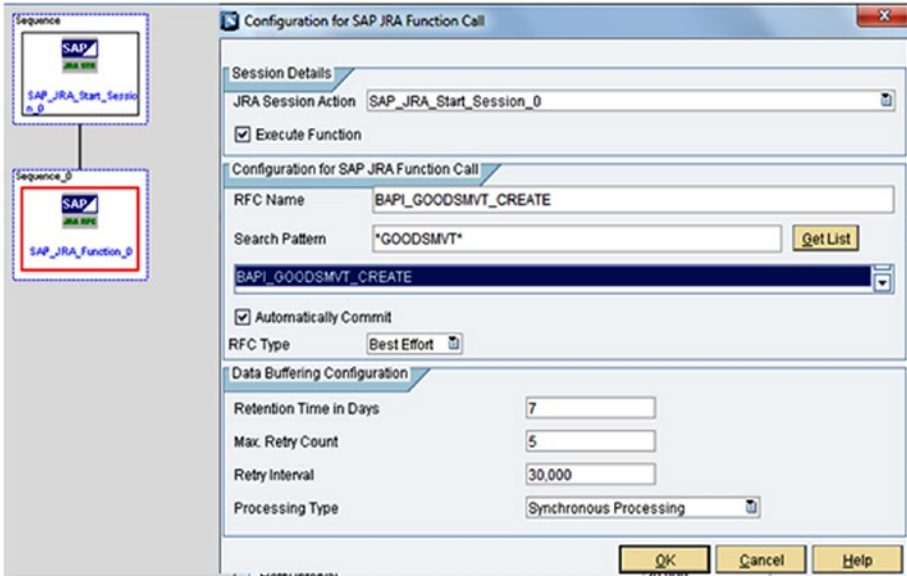

Figure 7-164. JRA function action block configuration
- SAP JRA Function Call:** This is the action to call RFC. It is different from the SAP JCo function action block (which is explained later), as JRA is more secure and follows a user-specific encryption algorithm. See Figure 7-164.